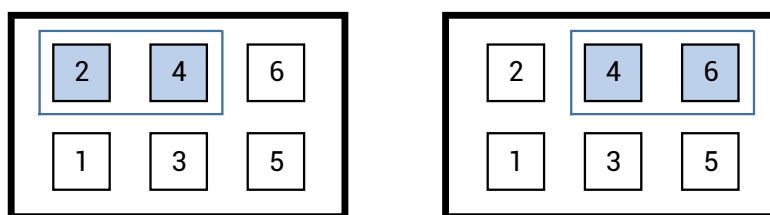

Figure 3-3 Jumper on the VSEL Interface
- 1) If you use the USB cable, you should install the jumper on the top right-hand corner at the VSEL interface (see Figure 3-3), and connect the EVK to the PC for power supply and data transmission.
- 2) If you use the 12 V power adapter, you should install the jumper on the top left-hand corner at the VSEL interface (see Figure 3-3), and use the straight through serial cable to transfer data.